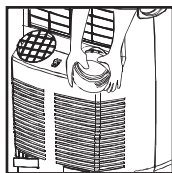

Fig. 2
the lugs on the exhaust nozzle connector are engaged with the grooves on the connector of unit (Fig. 2).
2. Fit the flange accessory fixture (12) provided into the hole.
3. Fit the exhaust hose in the housing at the back of the appliance (Fig. 2).